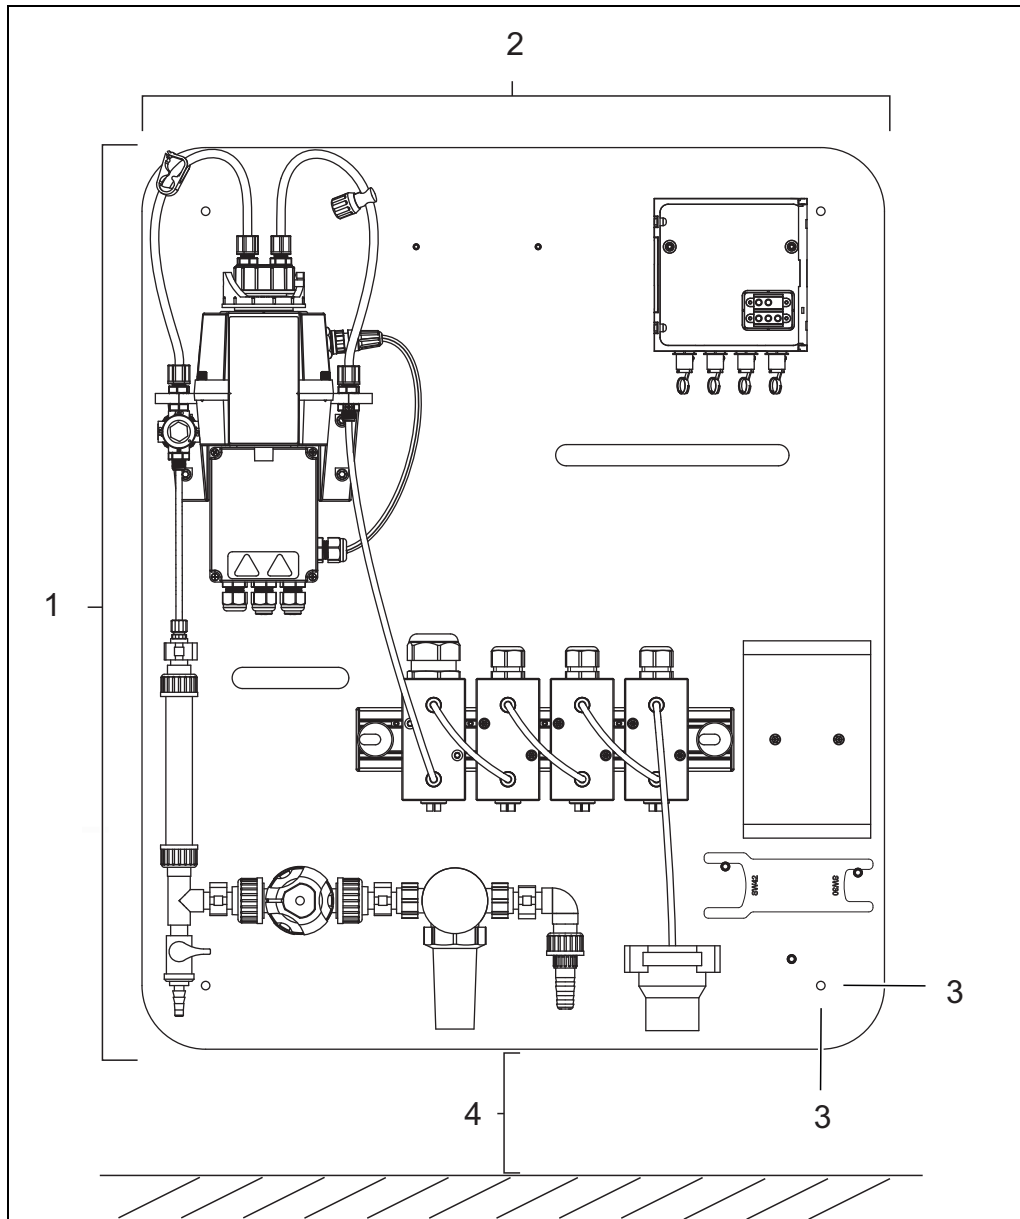

figure 3-1 Dimensions
- Free wall (at least 850 x 700 mm, see figure 3-1)
2. Drill holes at the correct distances (see figure 3-1) in the wall intended for mounting.